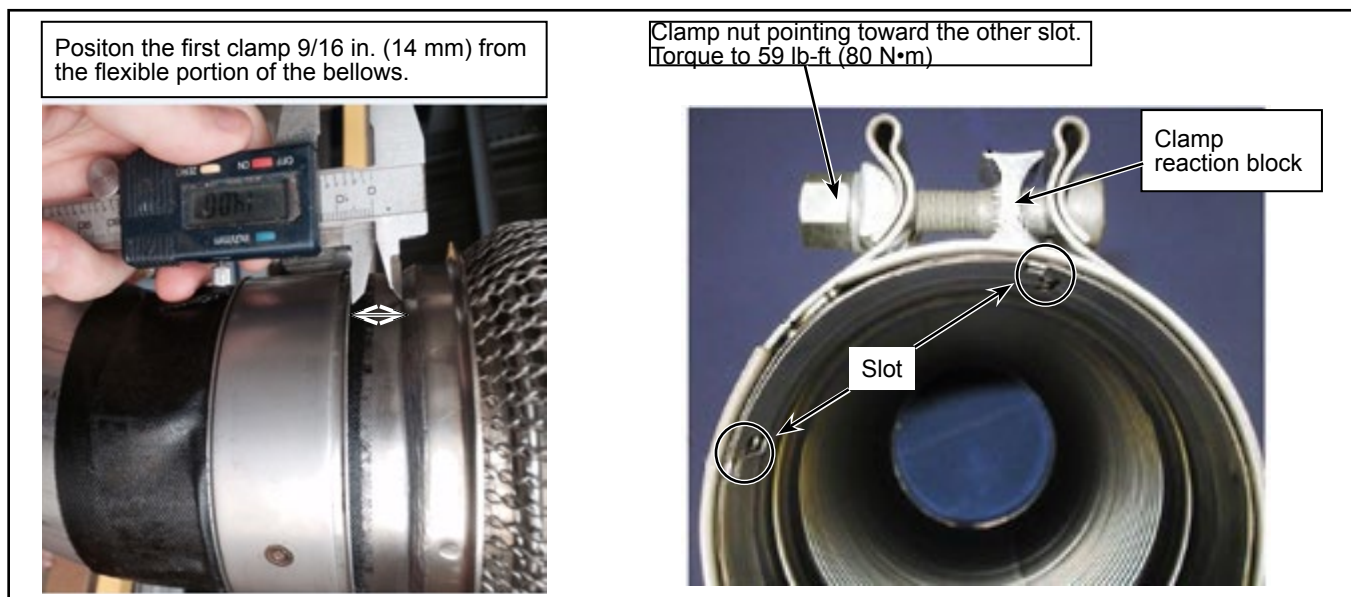

Figure 5 - Positioning of the First Retaining Clamp of the Flexible Bellows
- 1.14. Position the first clamp 9/16 in. (14 mm) from the flexible portion of the bellows. There should be at least 1/8 in. (3 mm) of tape above the clamp. Align clamp reaction block on top of one of the flexible bellow slots. The nut of the clamp should point toward the other slot of the flexible bellows. See Figure 5.
- 1.15. Tighten and torque the clamp. See Figure 5.